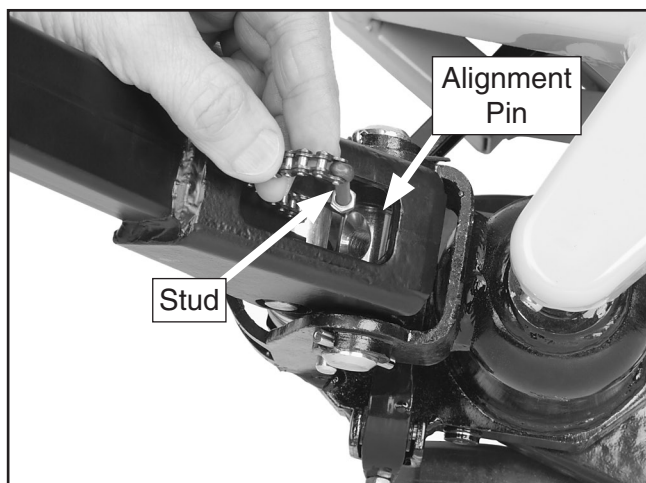

Figure 4. Threading stud and chain into alignment pin.
5. Thread the stud and lock nut on the end of the chain through the hole in the center of the alignment pin, as shown in **Figure 4**.